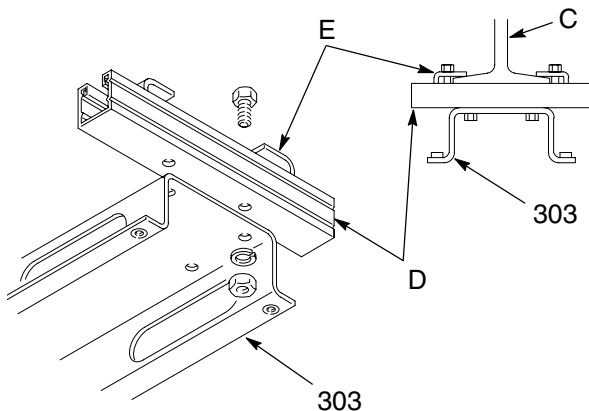

Fig. 8
1. Secure two accessory mounting brackets (D) as shown in Fig. 8. Use two mounting brackets for each 1- to 3-capacity mounting channel (303).
2. Position the adjustable clamps (E) of the mounting brackets (D) over the I-Beam (C), and tighten them securely. See Fig. 8.